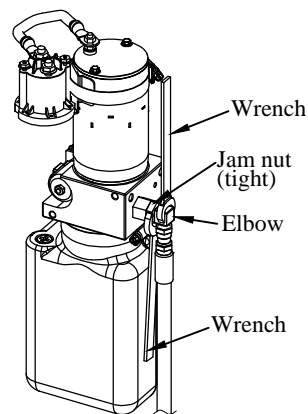

Figure 3: Jam nut.
7. **Loosen** elbow jam nut. While attempting to loosen the jam nut with an open end wrench, hold the elbow in place using another open end wrench (Figure 3).
10. **Tighten** elbow jam nut (Figure 3). While attempting to tighten the jam nut with an open end wrench, hold the elbow in place using another open end wrench.